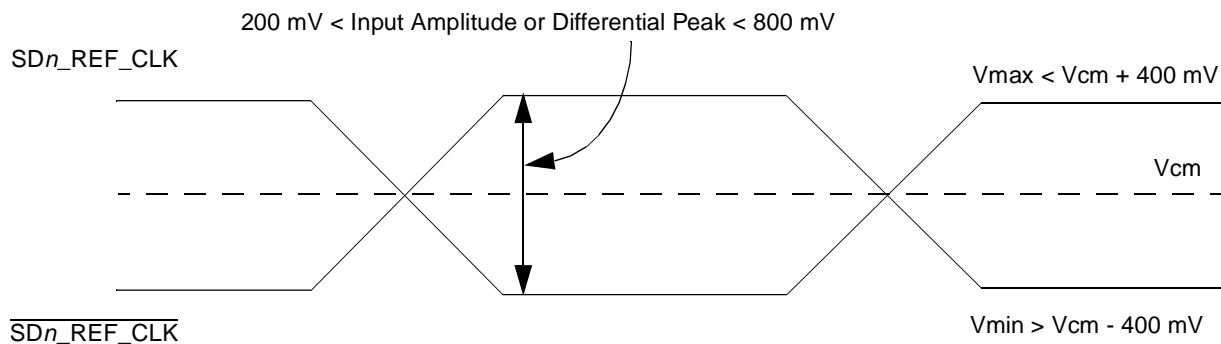

Figure 47. Differential Reference Clock Input DC Requirements (External AC-Coupled)
- For **external AC-coupled** connection, there is no common mode voltage requirement for the clock driver. Since the external AC-coupling capacitor blocks the DC level, the clock driver and the SerDes reference clock receiver operate in different command mode voltages. The SerDes reference clock receiver in this connection scheme has its common mode voltage set to $SGND_SRDSn$. Each signal wire of the differential inputs is allowed to swing below and above the command mode voltage ($SGND_SRDSn$). Figure 47 shows the SerDes reference clock input requirement for AC-coupled connection scheme.